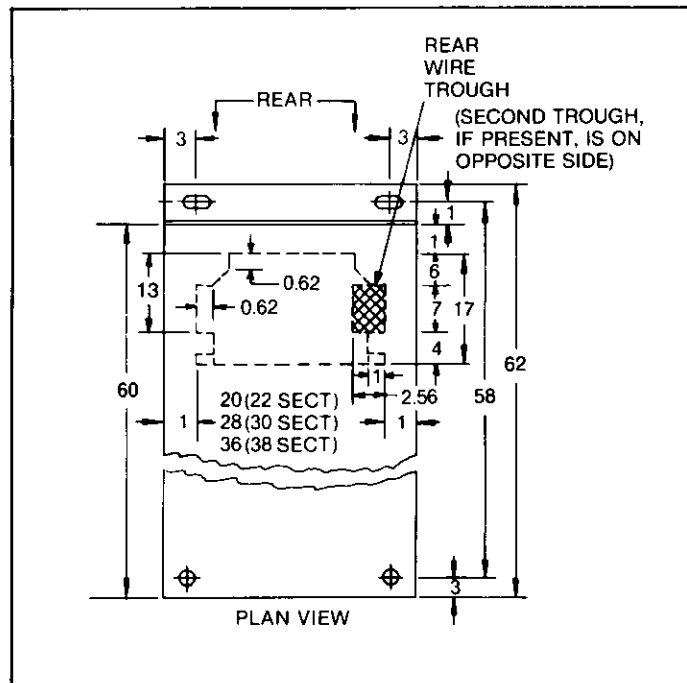

Fig. 4-24. Bottom cable entry space — indoor AKD-8 (60-inches deep)
For external control wiring, refer to Fig. 4-24 for switchgear cable area dimensions, and connect the control wires to the switchgear section as follows:
2. Route the control wires from the conduits through the wiring trough (cross-hatched area—2" x 7"—shown on Fig. 4-24) at the side of the cable compartment. Connect the cables to the terminal blocks in accordance with the connection diagrams for the equipment.
3. If the control conduits enter from above, drill the top cover within the available space indicated. See Fig. 4-24. Control wires should be routed to the wiring trough and connected to the terminal blocks as described previously.